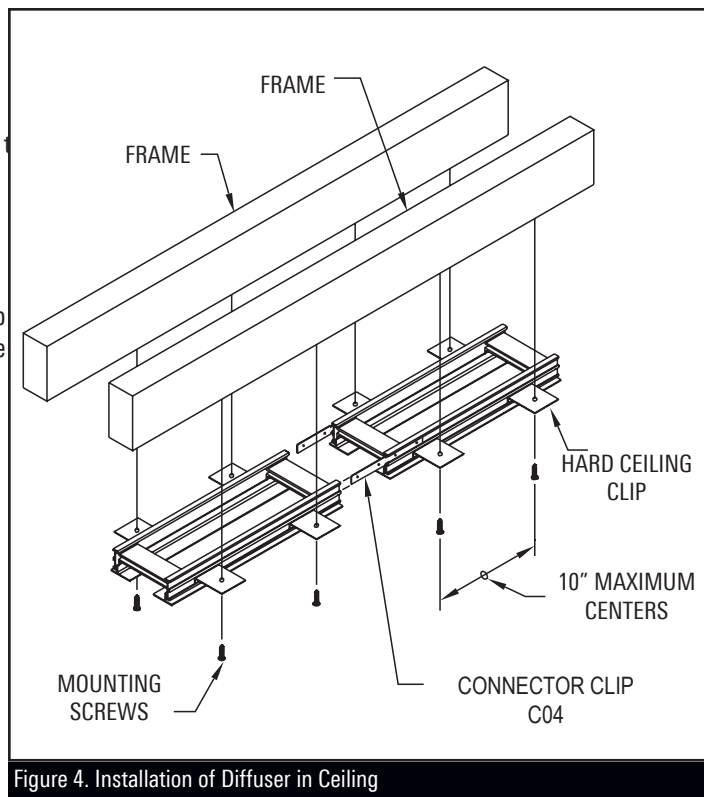

Figure 4. Installation of Diffuser in Ceiling
- ☐ Lift the AIR-TRAC™ Diffuser into the framed opening and secure the Mounting Clips to the frame with flat head screws as shown in Figure 4.
- ☐ If multiple sections of AIR-TRAC™ are required, repeat previous step by lifting additional sections into the framed opening. Be sure to insert Connector Clips-C04 into the AIR-TRAC™ ends to insure a tight and aligned connection as shown in Figure 4.